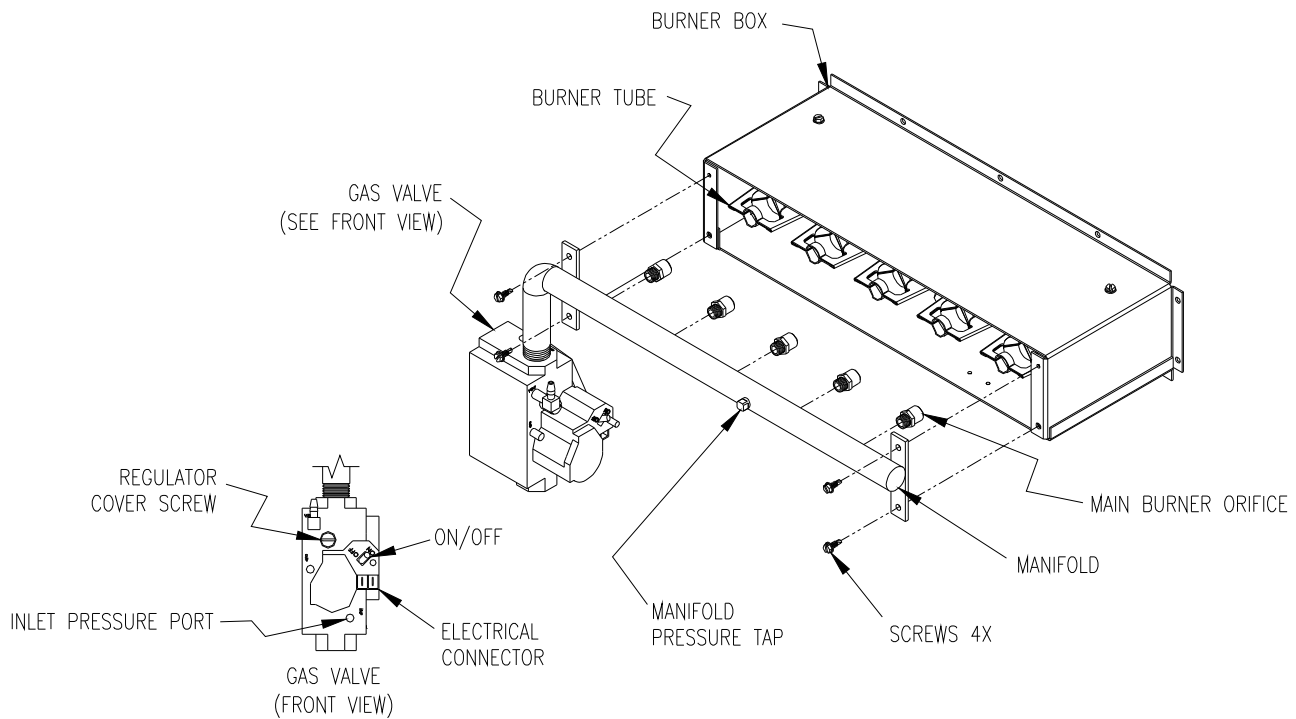

Figure 2.
3. Remove the four screws securing the manifold in the burner box. Pull the manifold far enough out of the burner box to access the burner orifices. (See figure 2)
6. Reinstall the manifold into the burner box. Make sure that all the orifices go into their respective burners. Secure the manifold with four screws. (See figure 2).